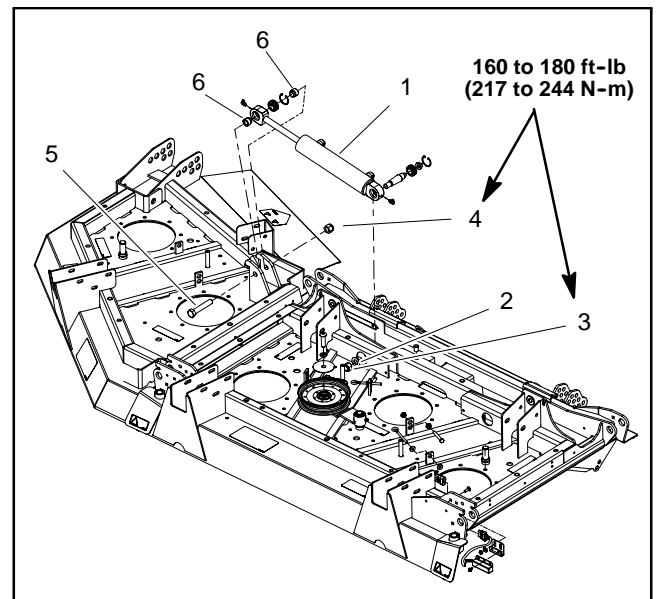

Figure 4
5. Remove hydraulic hoses from wing deck lift cylinders (Fig. 4):